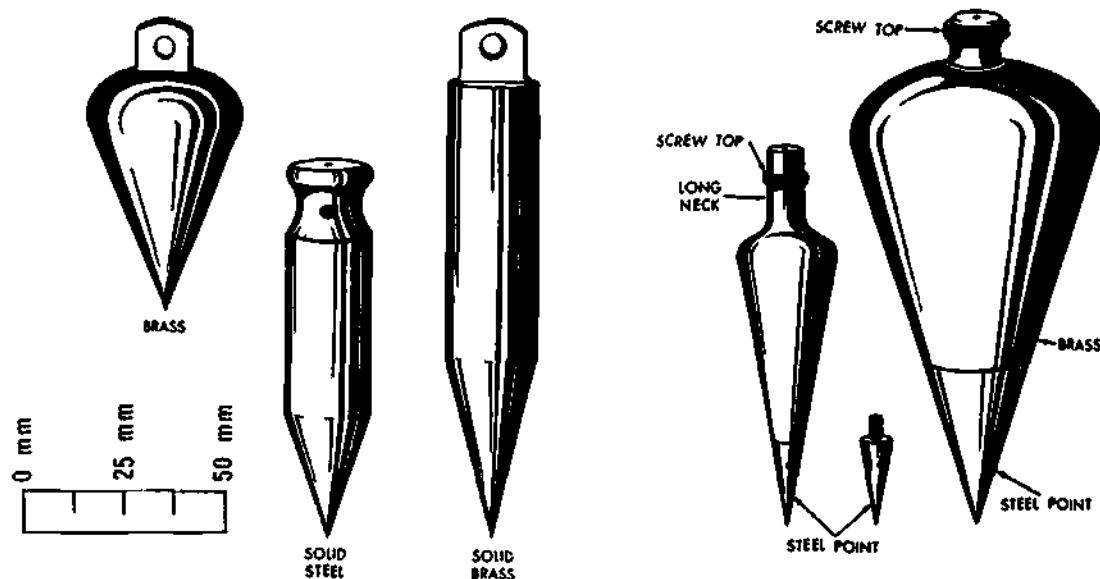

Figure 1-126. Various Plumb Bobs
- b) Shown in Figure 1-126 are different types of plumb bobs.